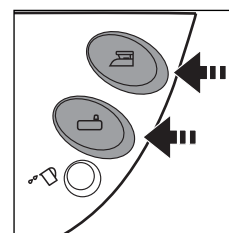
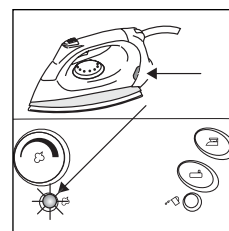

fig. 1
fig. 2
- Press switches and to power the steam generator and the iron (fig. 1) ; the "Steam ready" pilot lamp and the iron temperature light (orange) on the iron handset will also come on (fig. 2).